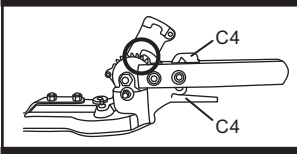

Fig. 16c
- c). Release the unlock levers (C4) when the desired angle is adjusted. Ensure that the hook engages between two teeth of the tooth wheel. (See Fig. 16c)